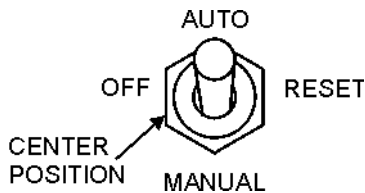

Figure 61. Off/Manual Auto Switch (OFF)
3. Place the Off/Manual/Auto Switch (Figure 61) in the "**OFF/RESET**" position.